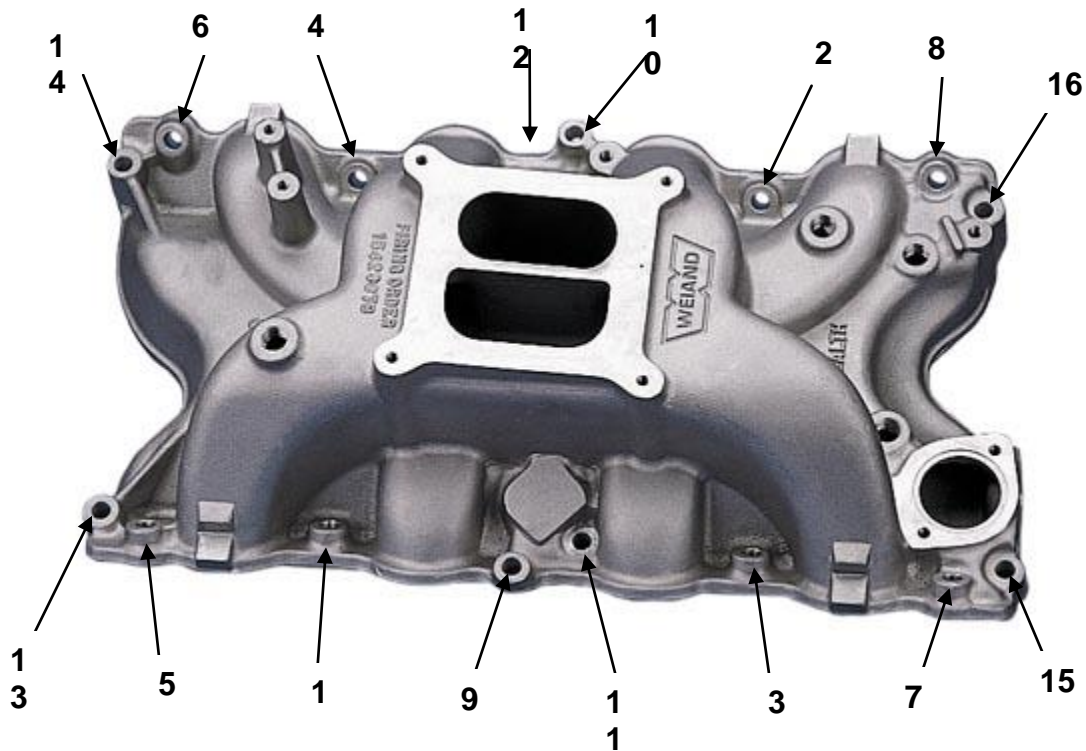

Figure 1
4. Carefully, lay your WEIAND intake manifold in place. If the manifold must be moved, recheck the gaskets. Install the intake bolts initially torquing to 10 ft./lbs., then 15 ft./lbs., following the factory **Ford** sequence, and finally torque to 25 ft./lbs. as shown in **Figure 1**.